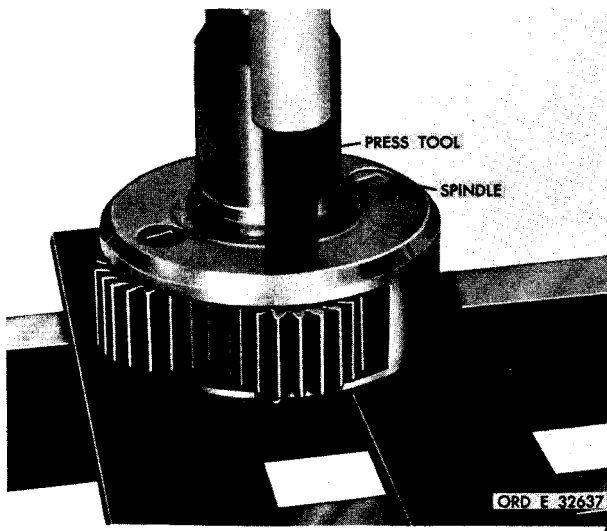

Figure 220. Removing planetary carrier spindle
b. Using a press, and a suitable press tool, remove four planetary carrier spindles (fig. 220).